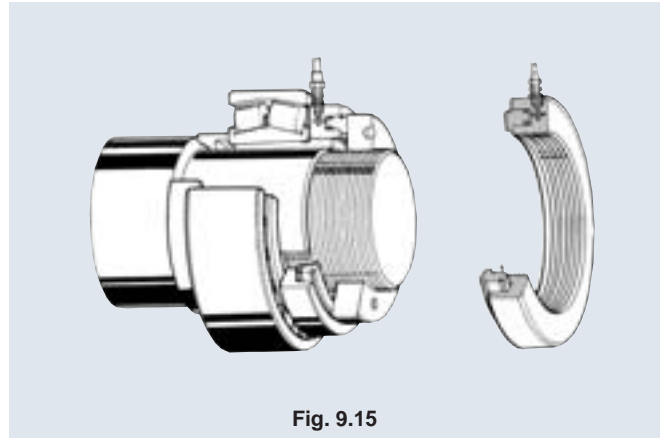

Fig. 9.15
- (7) If it is difficult to tighten a large bearing by manual force, use a hydraulic nut or ram for easier assembly. (**See Fig. 9.15.**)